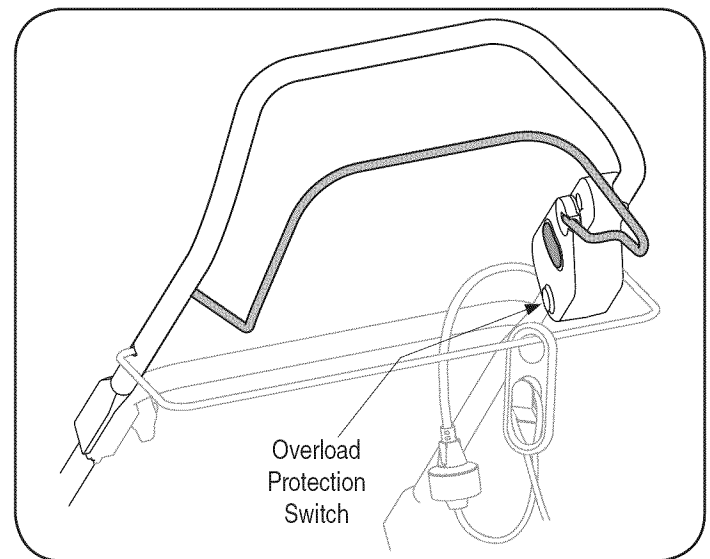

Figure 13
2. Press the overload protection switch inward to reset. See Figure 13.